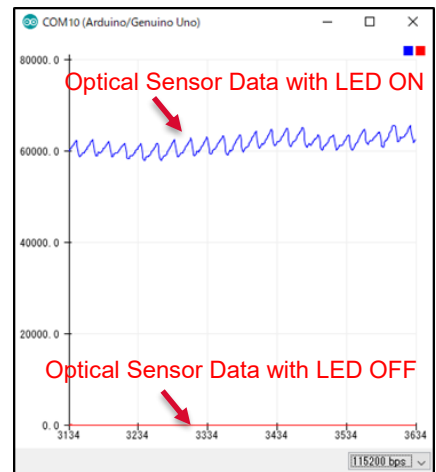

Figure 7. Serial Plotter
6. Check log of Serial Plotter (Figure 7)